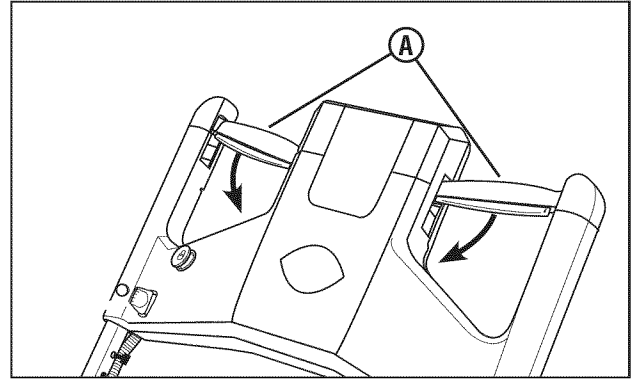

Figure 4: Propelling the mower
2. Begin slowly pushing the drive control (A, Figure 4) forward to propel the mower. Forward speed can be increased by pushing the drive control further forward.